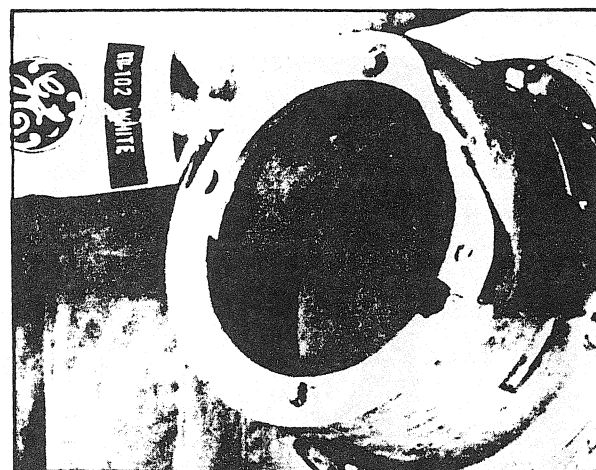

FIGURE 39
- Install armature plate to crankcase with the two (2) nuts and washers.
- Apply silicone rubber on magneto housing rim and on rubber grommet (fig. 39).